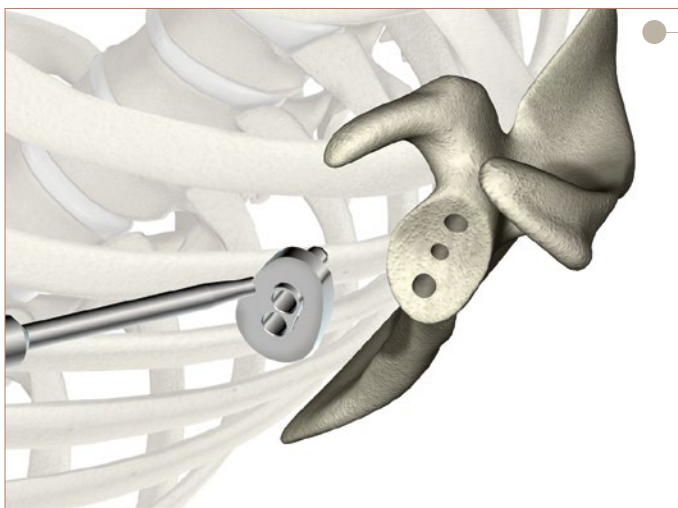

Figure 49
- ▶ The keel punch is impacted with a mallet until firmly seated (Figure 49). The body of the punch should bottom out flush to the glenoid bone with a tight fit.